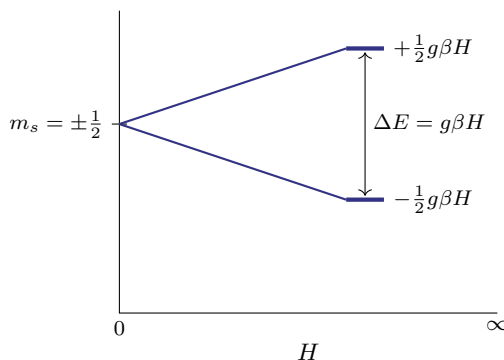

Figure 1.12: A Zeeman splitting diagram for a single electron.
- The magnitude of ΔE in Figure 1.12.